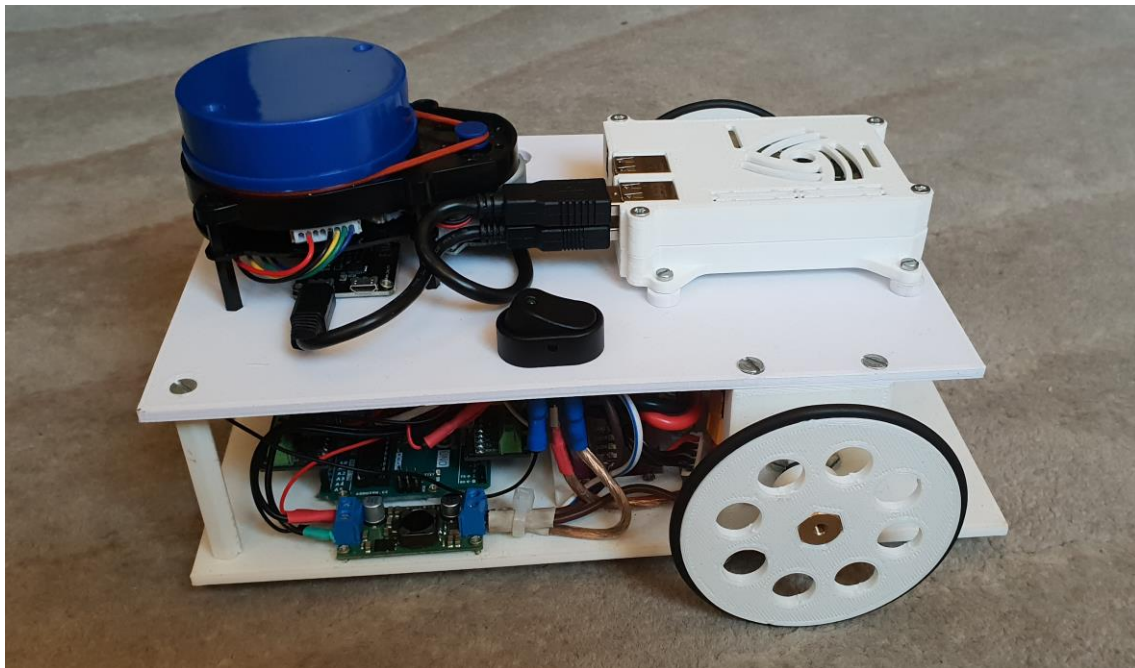

Fig 1 – Real robot
- b) Implement a detection and validation module for the beacons (see Control procedure). The laser data vector starts with a distance measure correspondent do -180° . The beam angle step is 1° and the laser frame is centered with the same orientation than the robot frame (placed in the middle of the wheels with the X axis pointing forward and the Z axis pointing up) at a distance of 14 cm (see figures 1 and 2).